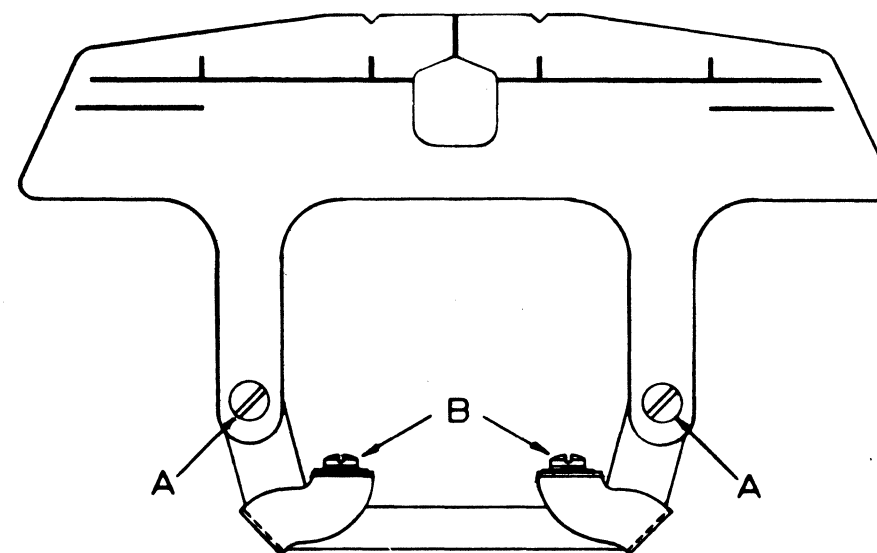

FIGURE 7-14
The reference marks inscribed on the card guide should appear as in Figure 7-14. Registration should be re-checked following adjustment of the card guide depth, or any time that it is sufficiently imperfect to inconvenience the operator.
- (1) First adjust the vertical alignment, by disabling the CARR test switch on the #1 printed circuits board, and moving the carriage to the center of the line.
- (2) Loosen the two retaining screws (A) shown in Figure 7-14.
- (3) Position the card guide to obtain the best alignment of the horizontal registration marks and the printed line, as shown in the diagram.
- (4) Secure the card guide by re-tightening the two retaining screws.
- (5) Next adjust the lateral alignment of the guide. Move the carriage to the approximate center of the page, return the CARR test switch to its normal operating position, and print a single capital "I" for reference.
- (6) If the vertical registration mark does not bisect the printed character, loosen the two retaining screws (B) shown in Figure 7-14.
- (7) Position the card guide to obtain the best adjustment and secure it in place by re-tightening the two retaining screws.
- (8) Again check the vertical alignment and re-adjust as necessary. This completes the registration adjustment.